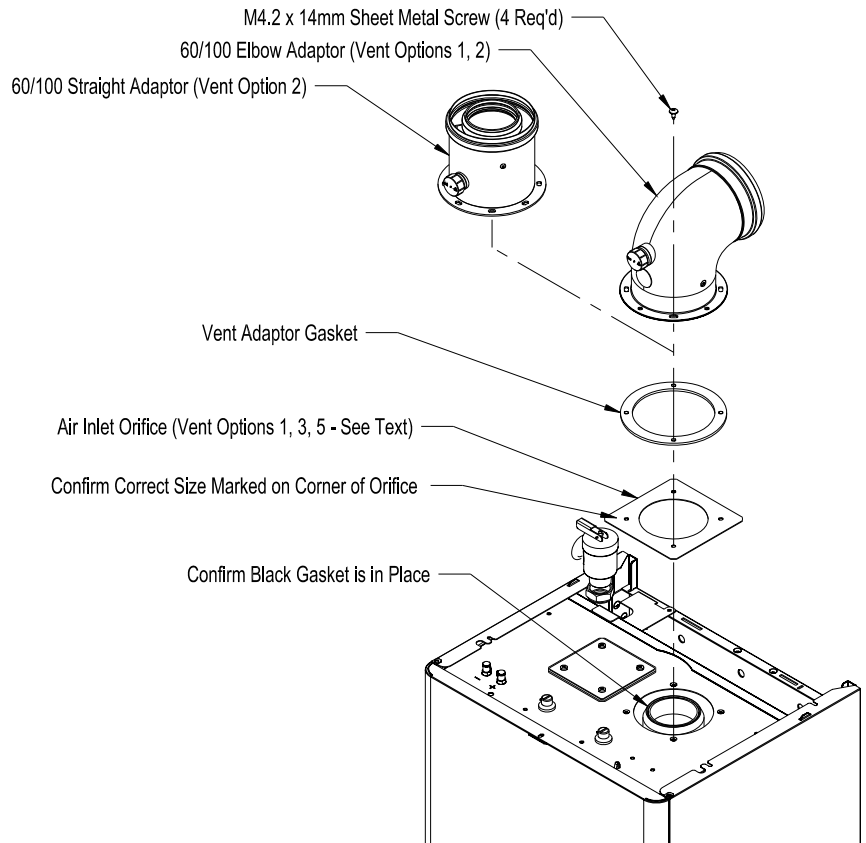

FIGURE 7.20: INSTALLATION OF 60/100 ADAPTORS ON BOILER
- 2) Start by attaching the elbow adaptor (or straight adaptor, if used instead) to the top of the boiler using the gasket and four 4.2mm sheet metal screws provided in the vent kit as shown in Figure 7.20. For Vent Option 1, install the 82mm air inlet orifice as shown.